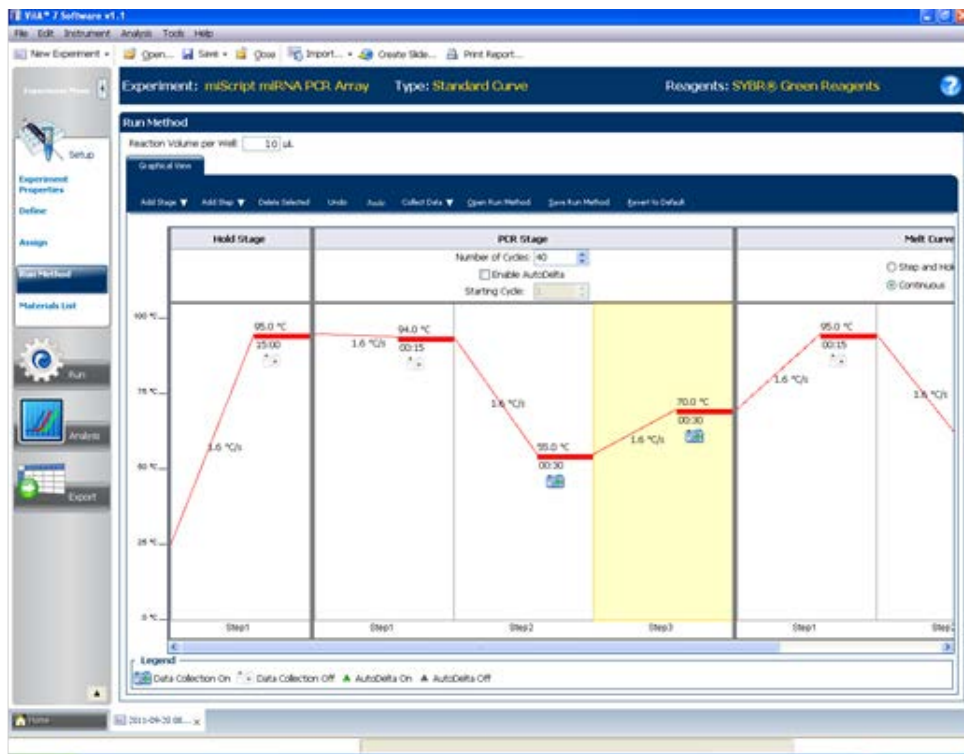

Figure 2. “Run Method” screen.
6. Under "Setup" > "Run Method" menu (see Figure 2).